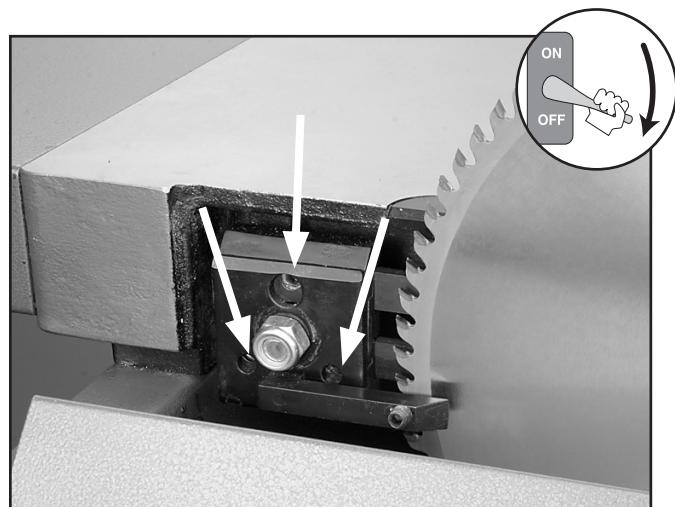

Figure 37. Set screws for adjusting riving knife.
- Use the set screws shown in **Figure 37** to adjust the riving knife bracket, so the riving knife aligns with the main blade when re-installed.